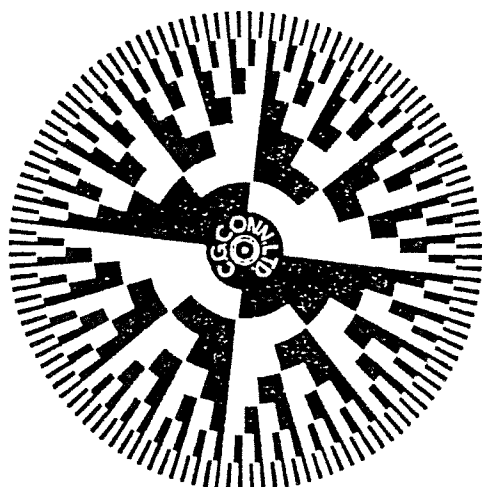

Figure 4—Stroboconn Scanning Disk
b. In the Strobocconn a neon discharge tube is made to flash in accordance with the pulsations (frequency) of the sound reaching the microphone. The light from this tube is used to illuminate a series of twelve rotating disks which have been imprinted with a pattern such as seen in Figure 4, consisting of seven rings of alternate light and dark segments that correspond roughly to the spokes of a wagon wheel. Each ring, progressing radially from the center, has exactly twice the number of segments as the preceding one, just as musical notes double their frequencies in progressing to successively higher octaves.